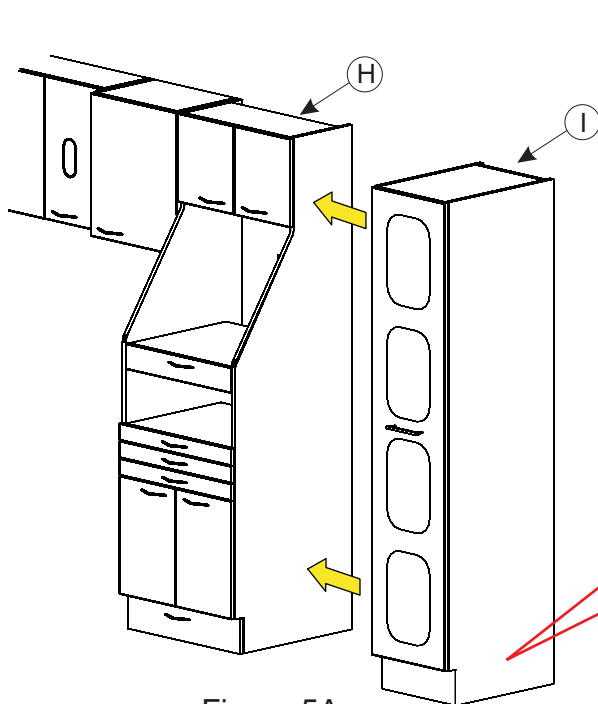

Figure 5A
Move Tall Tower Storage Cabinet (I) into position flush against the wall and against the last Sterilization Cabinet (H) (see Figure 5A). Plug the interior lamps into a floor outlet **controlled by customer supplied light switch** through the access hole at the bottom rear corner of the Tall Tower Storage Cabinet (I). Make sure the cabinet is flush and level (NOTE: 6" of clearance from the side wall is required for door rotation, shim if necessary).